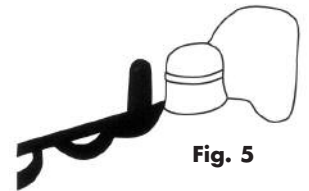

Fig. 5
7. Wax the partial denture framework. Do not wax directly against the representation of the attachment. Create mechanical retention for the acrylic adjacent to the attachment representation (Fig. 5). For all partial dentures we recommend waxing temporary struts and rests for framework orientation and stabilization during try-in (Fig. 6). The struts normally should extend from the major connector over the incisal of the selected remaining dentition. Along with the rests and soft tissue stops, these will provide stable, accurate seating of the framework during fabrication.